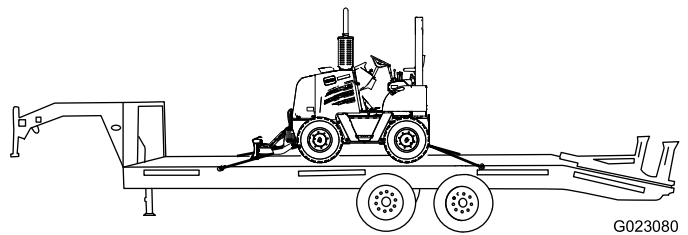

Figure 29
9. Fasten the front of the machine to the trailer using chains and a binder (Figure 29).
10. Fasten the rear of the machine to the trailer using chains and a binder (Figure 29).